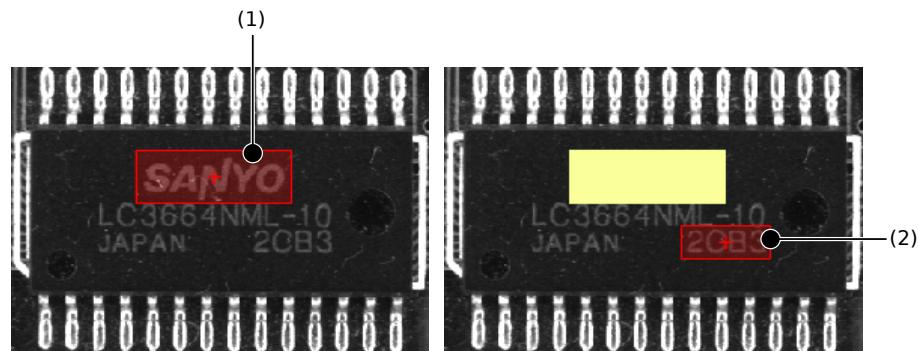

Figure 6.81: Drawing an ROI of rectangles.
You can modify the rectangle by dragging its sides or corners. Make the rectangle match the big label on the chip (see figure 6.81 (1)).
- Repeat the last step to create another rectangle and make it match the lower part of the label (see figure 6.81 (2)).